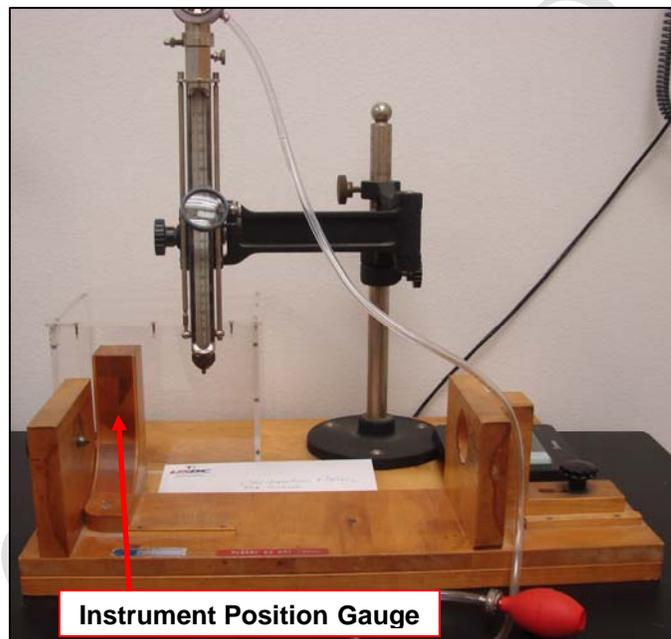

Figure 1 - Scleroscope and bowling pin jig
1. Rotate the wooden “L” shaped instrument position gauge that is on the left side of the jig towards the operator until it stops in the center of the jig. See figure 1 for location of the instrument position gauge.